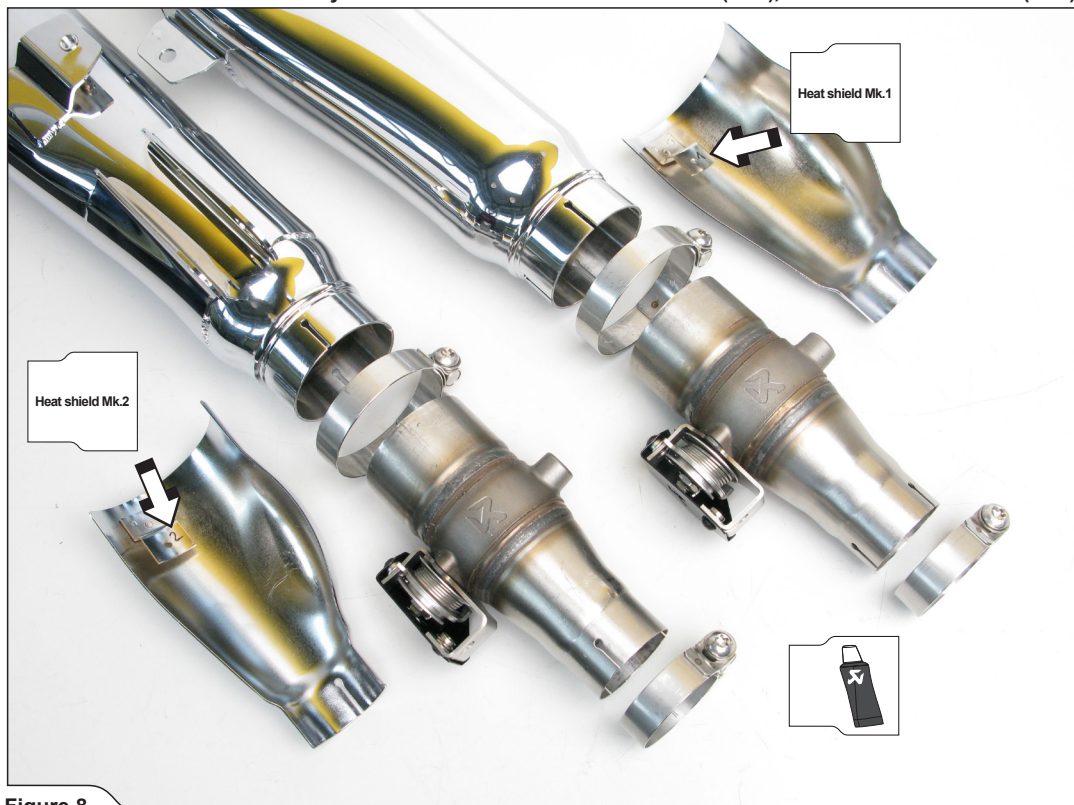

Figure 8
6. Correctly assemble the mufflers, link pipes, clamps and heat shields (Figure 8, 9, 10).